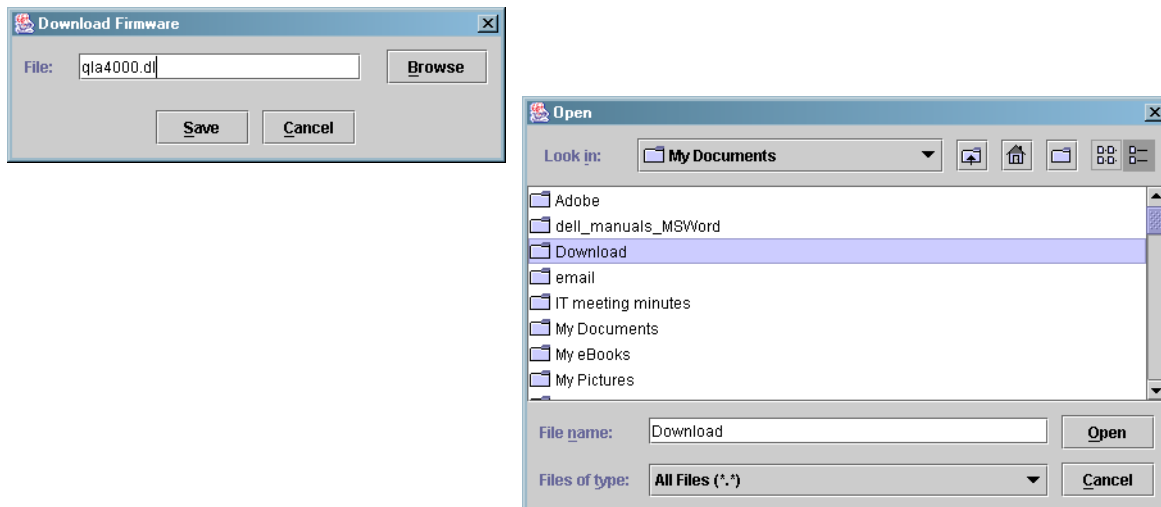

Figure 6-32. Update Firmware Dialog Boxes
13. The **Open** dialog box displays. Select the firmware file (downloaded in step 2), then click **Open** (see figure 6-32).